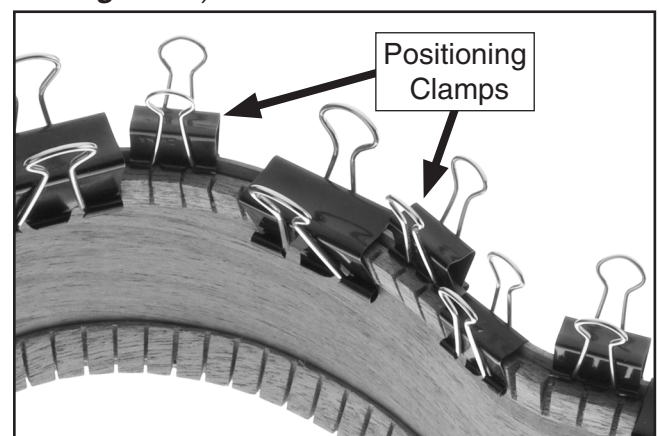

Figure 18. Clamps arranged for positioning and gluing the kerfing to the sides.
3. Clamp the bent kerfing to the contour of the side adding clamps as you proceed, as shown in **Figure 18**.
Note: Ensure that the kerfing and side are in full contact up to the point of each clamp and that the clamps do not move the kerfing above the layout line. Use clamps to maintain the correct height of the kerfing (see **Figure 18**).